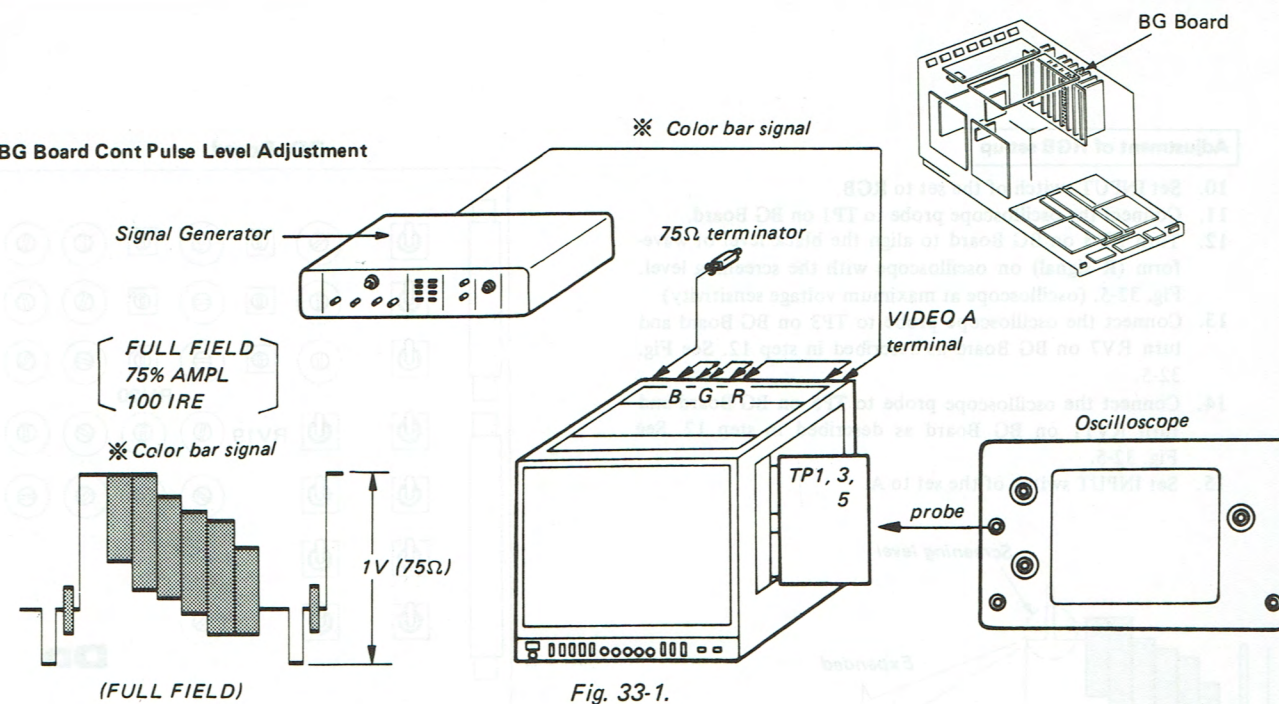

Fig. 33-1.
1. Connect as shown in Fig. 33-1.